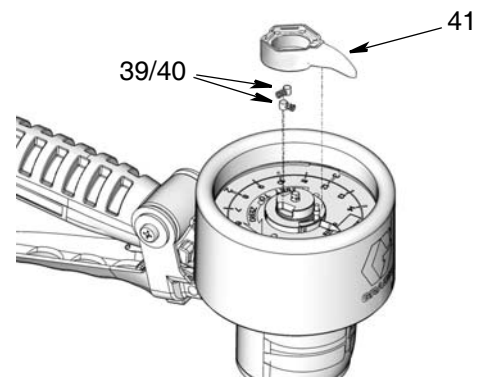

FIG. 24
5. Install the needle pointer (41), springs (39) and pins (40) as shown in FIG. 24.